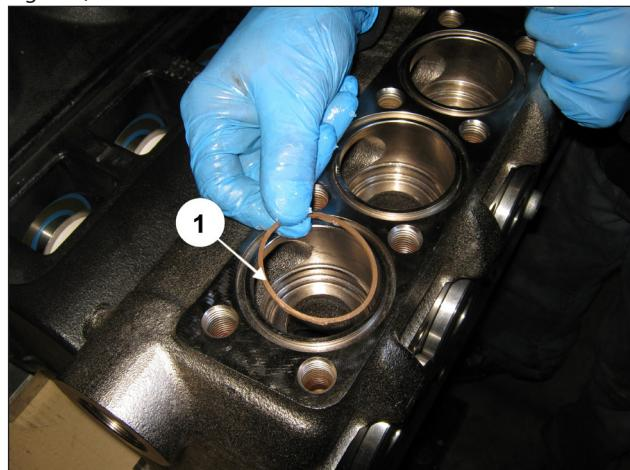

Fig. 142
Insert the back-up ring, exploded view pos. 21 (pos. ①, Fig. 142).